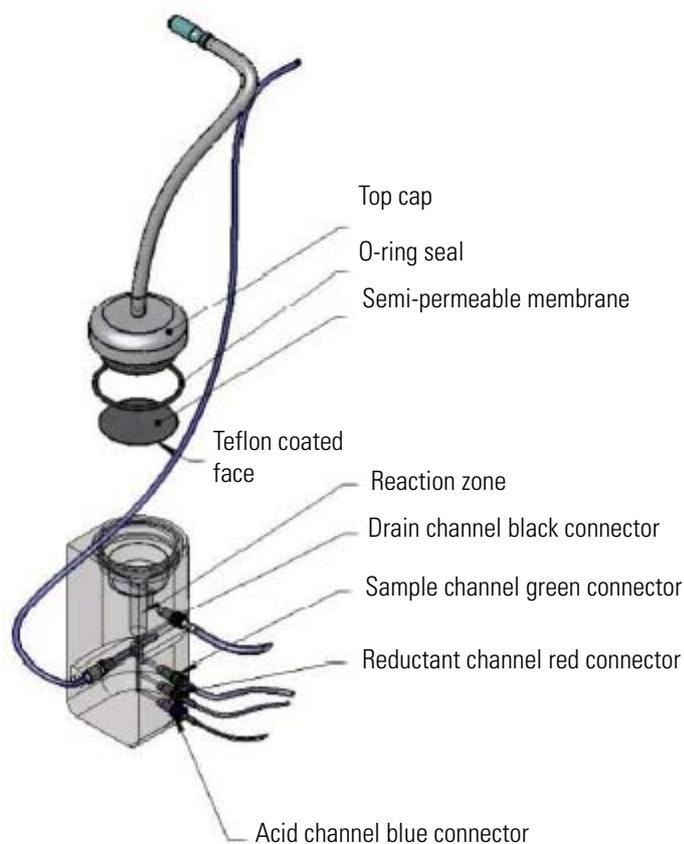

Figure B-5. Schematic of Gas Liquid Separator
When it is assembled, the reaction zone of the GLS (see Figure B-5) contains 4 mm glass beads. They minimize the dead volume of the zone and ensure proper mixing of the carrier gas and liquid reagents. It also contains a semi-permeable Teflon™ membrane to prevent moisture and salts from being carried over into the tube leading to the ICP torch. These parts are supplied with the unit and must be fitted before the accessory is used.
1. Unscrew the cap of the GLS. See Figure B-5.